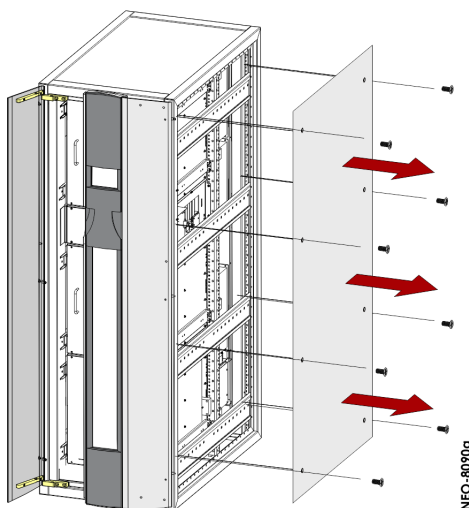

Figure 2-6: Library Panel Cover Removal Example
1. At the Master unit, remove the **screws** (six hex or eight phillips) that secure the **right** panel and carefully remove the panel (see Figure 2-6).
2. Remove the **screws** that secure the **left panel** and carefully remove it (see Figure 2-6).